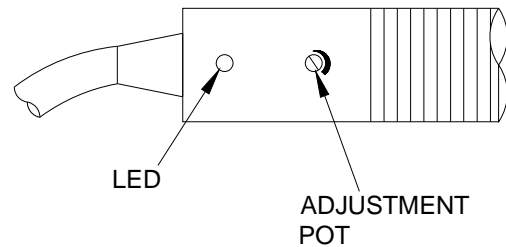

Figure 36
- The small pot on the barrel of the beam sensor (**Figure 36**) may be adjusted about mid range before proceeding. It has a one-turn range.